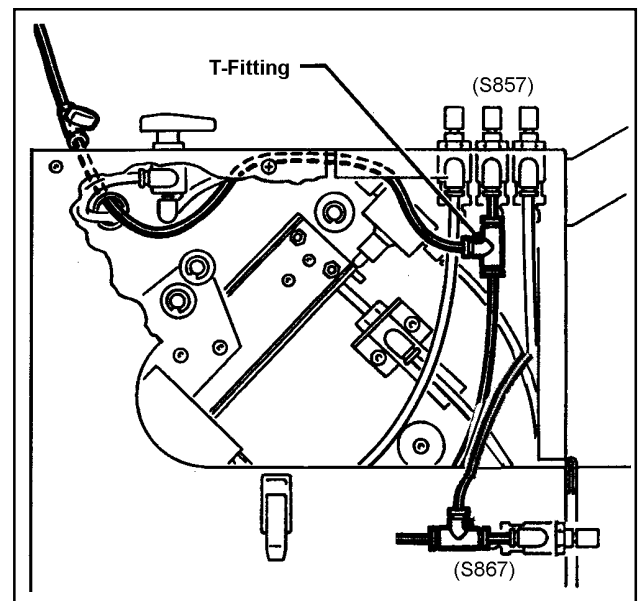

Figure 5—Reinstall T-Fitting
7. Reinstall the T-fitting as shown in Figure 5 by pushing the tubing into the fitting as far as it will go.